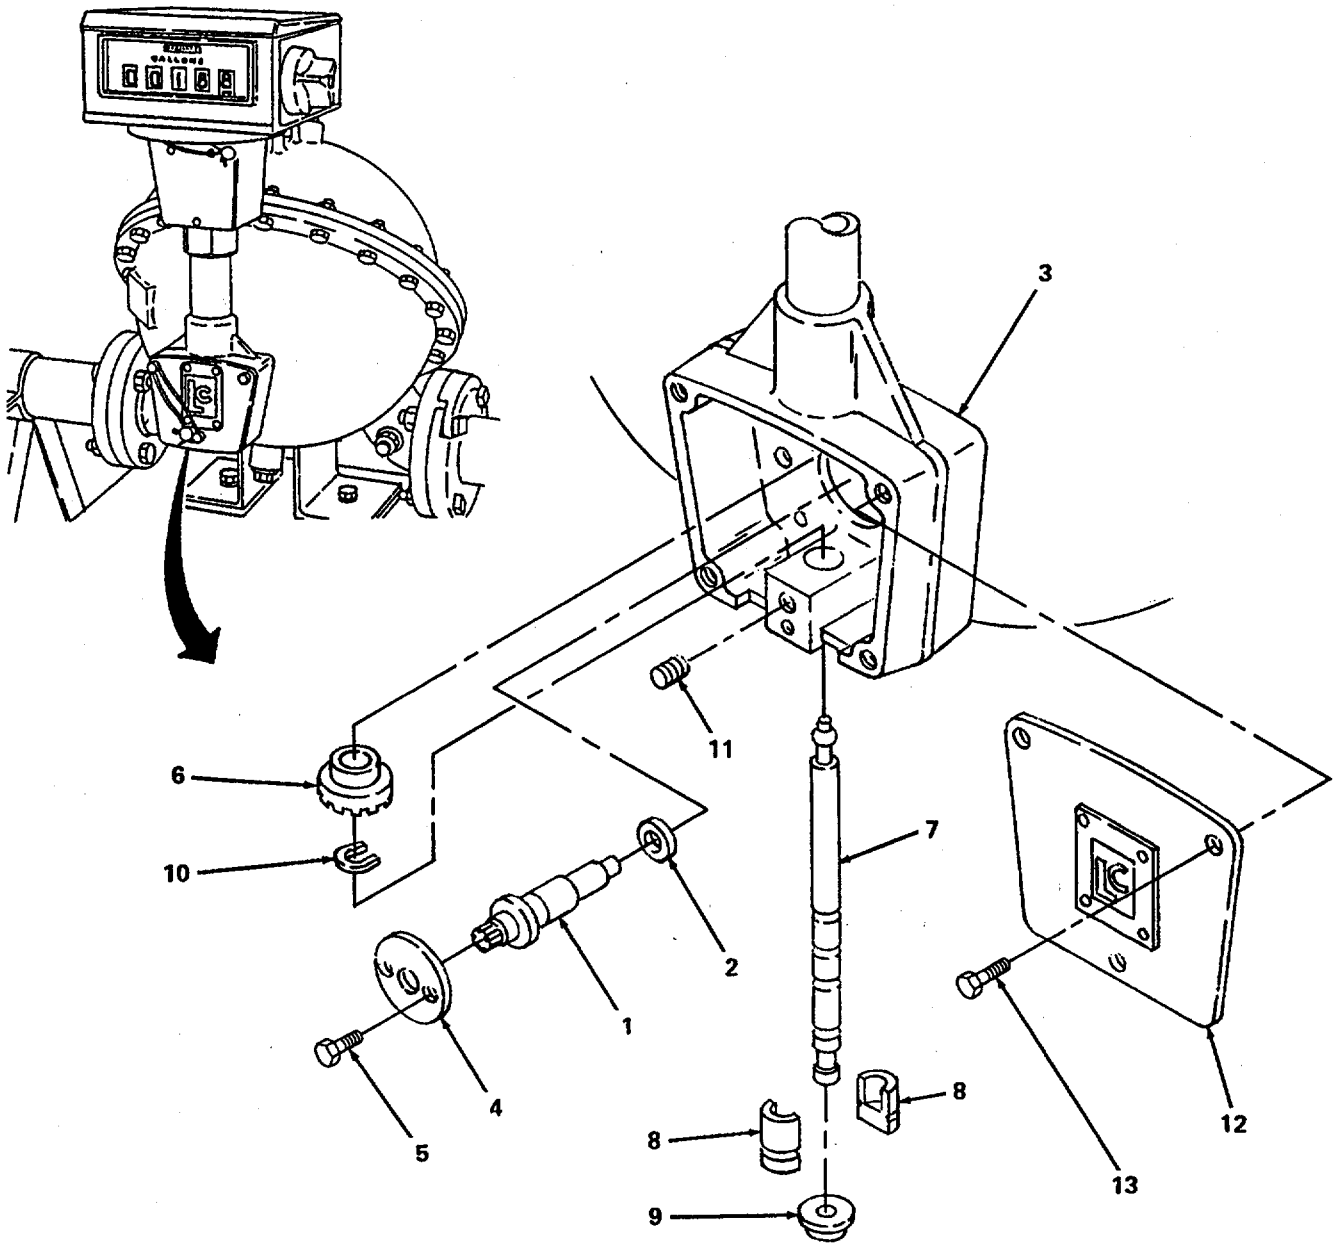

Figure 6-42. Flow Meter Packing Gland Assembly Installation.
- (a) Install packing gland assembly (1, figure 6-42) with associated O-ring (2) in packing gland housing (3).